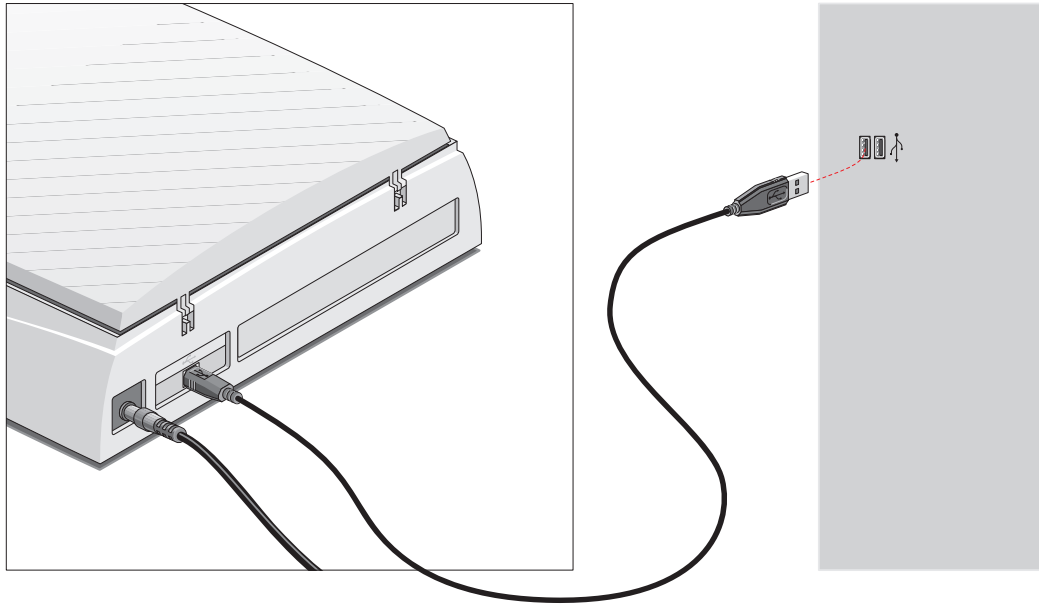

Figure 3
4. Connect the other end of your USB cable to a USB port on your computer. Make sure you connect it to the correct port as shown in Figure 3. A USB port is marked with the USB icon .